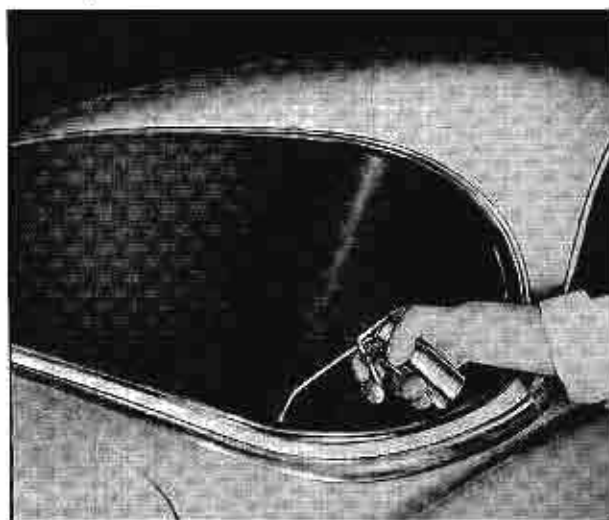

Fig. 3-72 Sealing Rear Window Rubber Channel
14. Apply a bead of weatherstrip cement between the outer lip of the rubber channel and the glass, around the perimeter of the back window, Fig. 3-72.